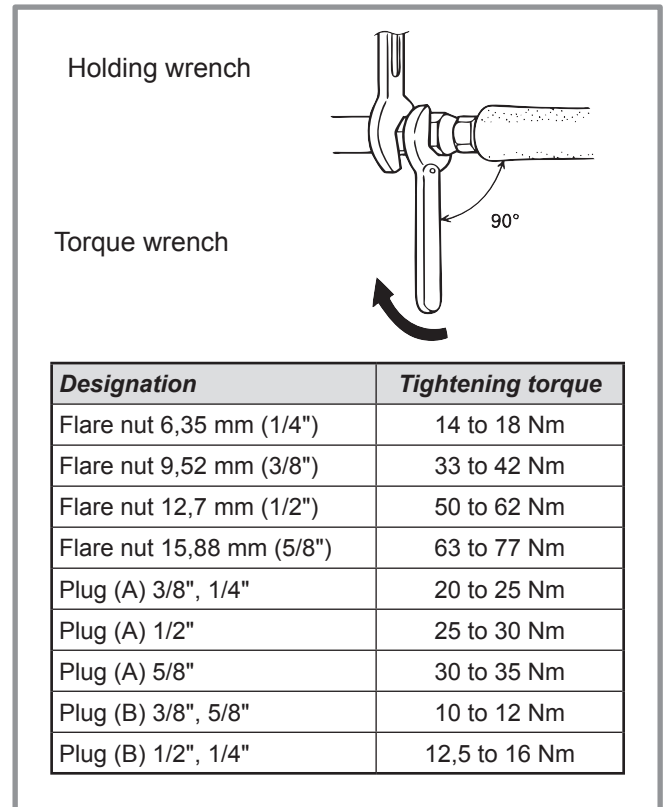

figure 16 - Tightening torque
- Remove the access plugs (A) from the valve controls.
- Refit the 2 plugs and tighten them to the recommended tightening torque (figure 16, page 19).